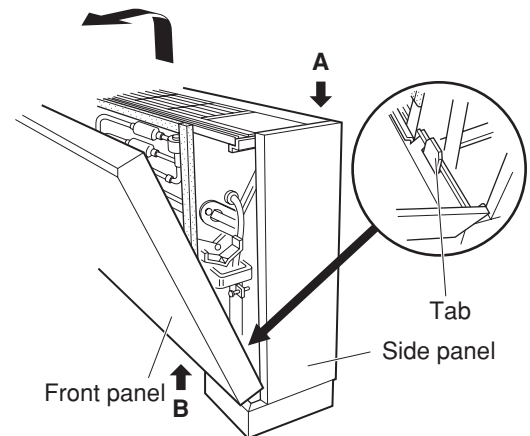

Fig. 3-108
- (1) Remove the 2 screws at the lower part of the front panel.
- (2) Holding **A** at the upper right of the unit, push up at **B** at the lower right of the panel. The right side of the front panel is removed. Then remove the left side of the front panel following the same procedure. (Fig. 3-108)
- (3) Disengage the lead wire connector (2P red) for the dew-prevention heater. (Fig. 3-108)